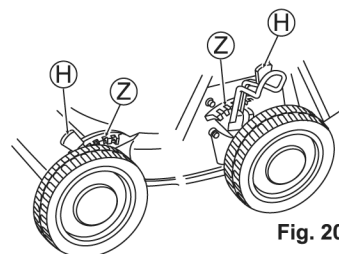

Fig. 20
2. Lean the mowing height adjustment lever (H) toward the wheel side, separating from the notches (dents) (Z). (See Figs. 20 and 21)
3. Insert the mowing height adjustment lever (H) into the notch (Z) for the target height with the lever kept leaned.
4. Insert all Mowing height adjustment levers (H) into the notches (Z) of the same height.